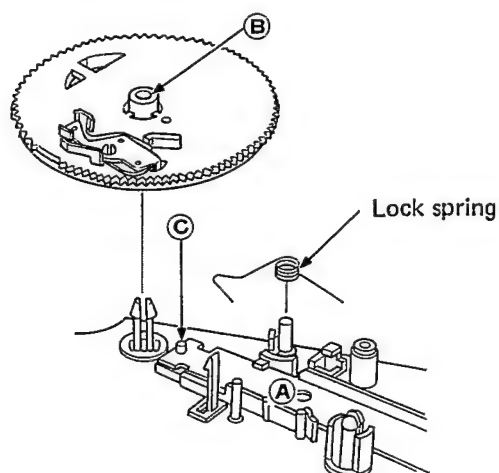

Fig. 9-9 Cam assembly attachment
The cam assembly is attached by letting the lock spring go in the direction ① as shown in Fig. 9-9.